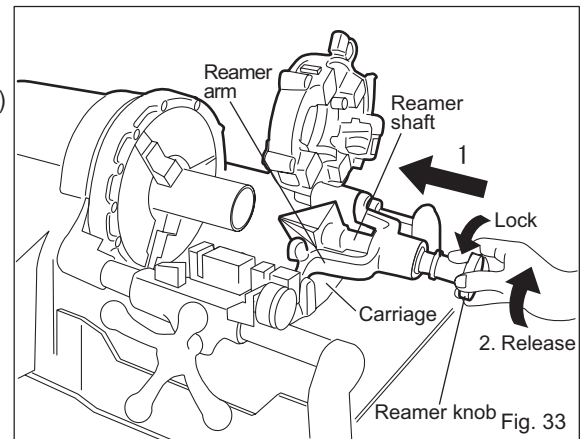

Fig. 33
- After cutting the pipe with the pipe cutter, be sure to use the reamer to chamfer the inside of the pipe before making a thread. (Figs. 33, 34)